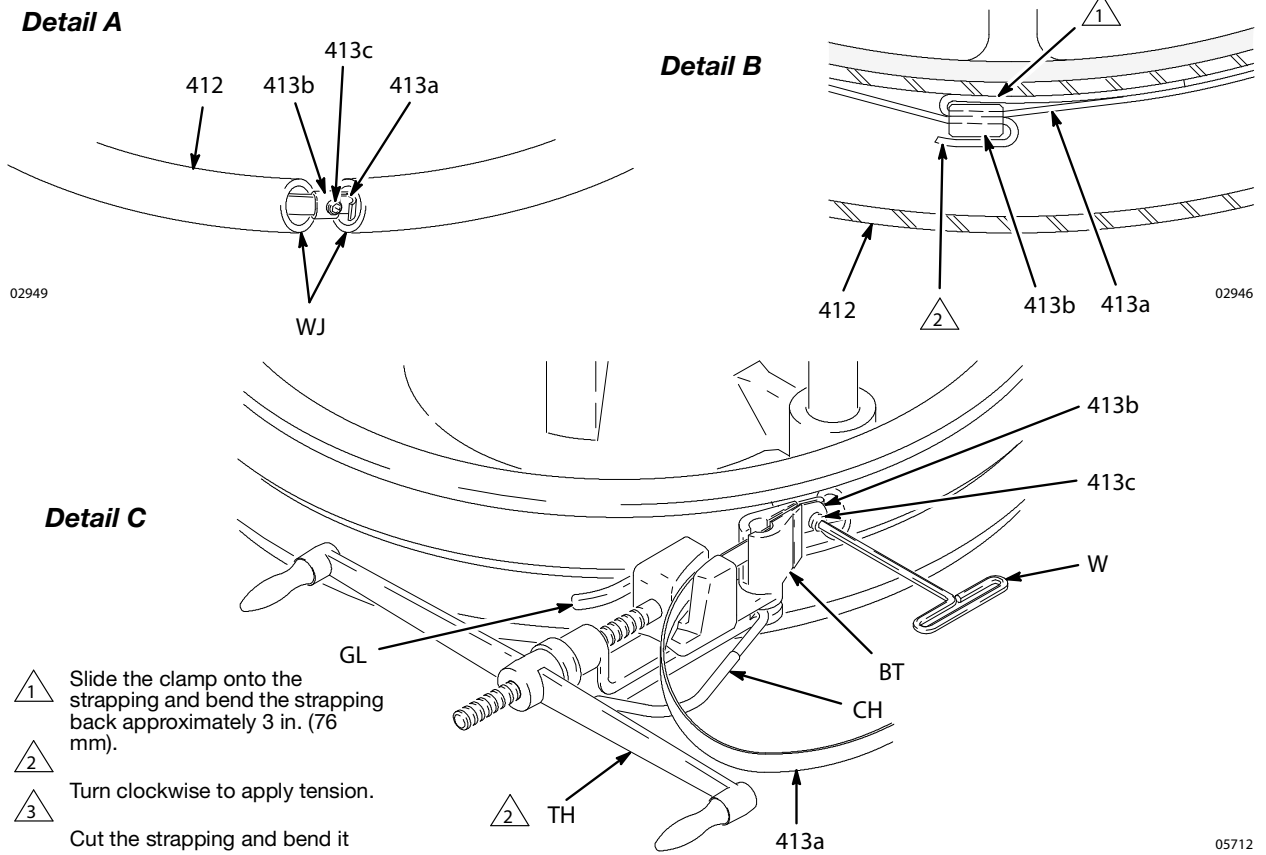

FIG. 19
3. Separate the wiper joint (WJ) and bend back the strapping (413a) covering the clamp setscrew (413c). See Detail A of FIG. 19. Loosen the
4. Slide the strapping (413a) through the new wiper (412). Slide the clamp (413b) onto the new strapping and bend the strapping back approximately 3 in. (76 mm). Insert the strapping through the clamp a second time. See Detail B of FIG. 19.
5. Install the wipers on the Follower Plate (D). Position the wipers so that the wiper joints (WJ) are 180° apart.
NOTE: You will need the special banding tool (BT) shown in Detail C of FIG. 19 to tighten the strapping. Order Part No. 168092 Banding Tool.
6. Grip the strapping (413a) with the bonding tool (BT) as shown. With your thumb on the gripper lever (GL), turn the tool handle (TH) clockwise to apply tension.